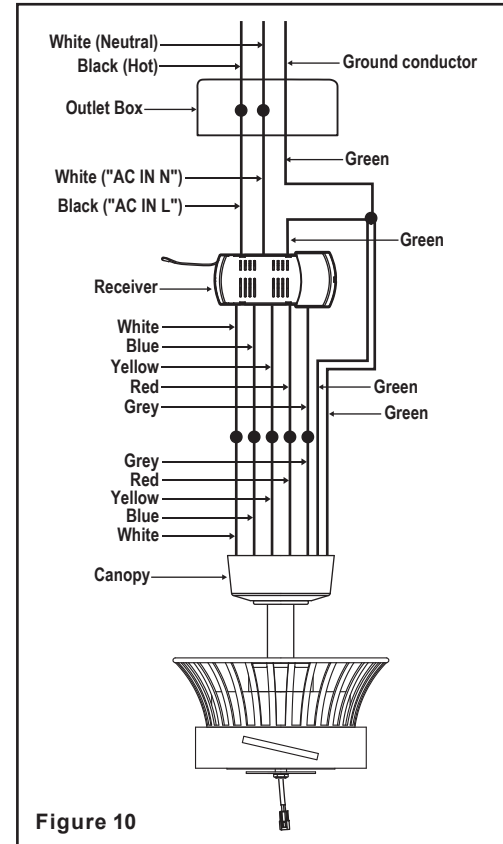

Figure 10
Step 2. Make wire connections from the fan to the receiver. (Fig. 10)
Step 3. Make wire connections from the receiver to the outlet box. (Fig. 10)